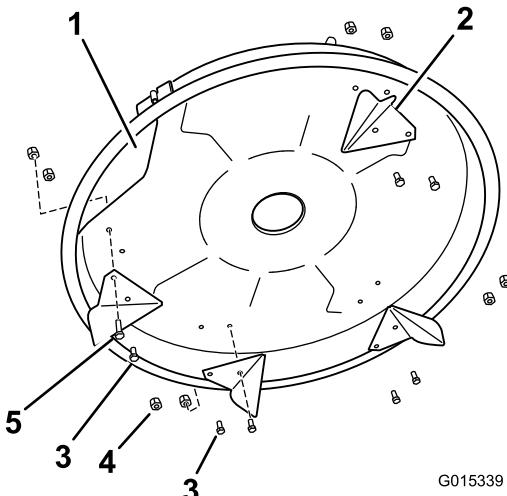

Figure 2
1. Align the three kicker plates as shown in Figure 2.
2. Secure the plates to the mower using seven bolts (5/16 x 3/4 inch), one bolt (5/16 x 1-1/4 inches) and eight lock nuts (5/16 inch). Make sure the one longer bolt is used in the hole nearest to the discharge opening in the deck to accommodate the mulch cover in a later step (Figure 2).